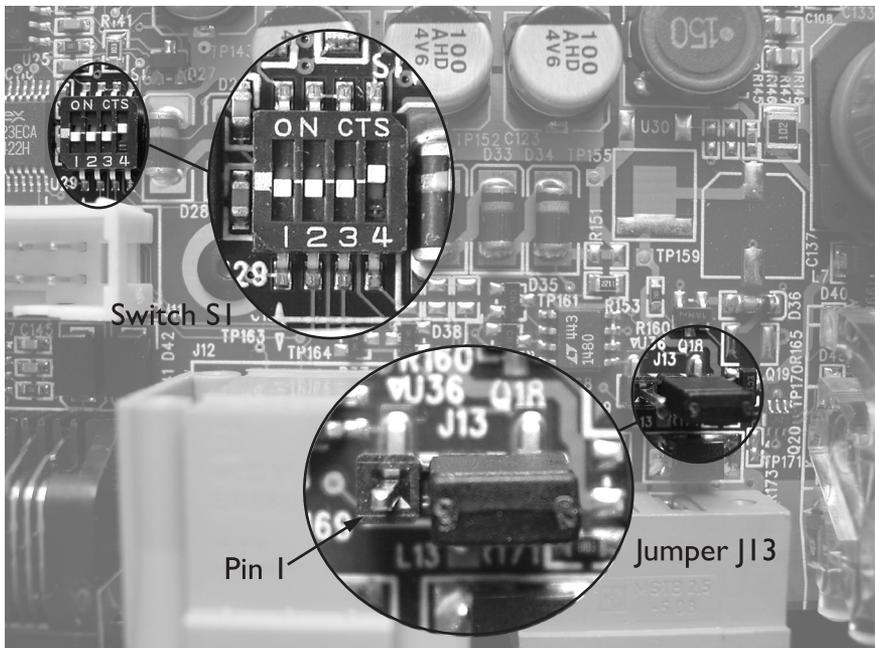

Figure 13: Pulsar 710 PCB
3. Switch S1 and Jumper J13 are used for these alternate trigger configurations. Figure 13 shows the location of S1 and J13.